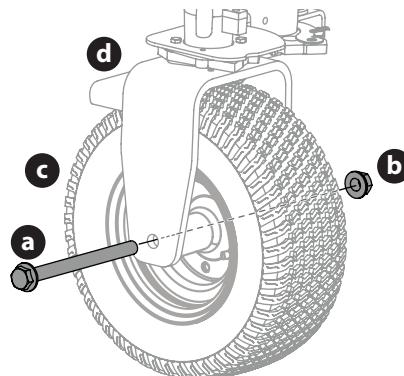

Fig. 55
1. Remove the hex screw (a) and flange lock nut (b) that secures the front wheel (c) to the yoke assembly (d) (Fig. 55).